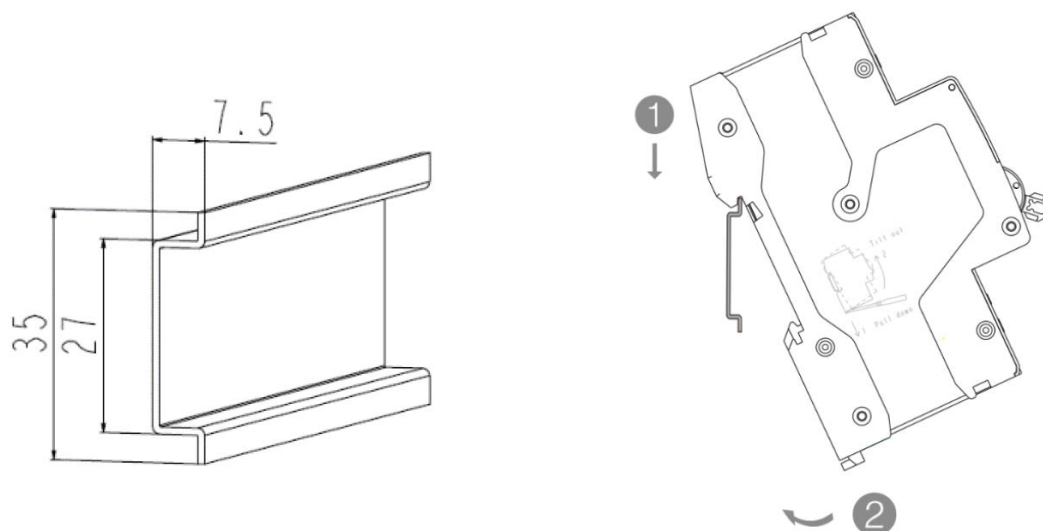

**Figure 3 Circuit breaker closing/opening status indication, mode selection switch "Automatic" and "Manual" positions**
8.1 Before installation and use: check whether the circuit breaker mark is consistent with the working conditions used; Before power on, the circuit breaker shall be operated several times, and its mechanism action shall be flexible, reliable, and free of blocking. See Figure 3 for the circuit breaker closing/opening status indication and the "Automatic"/"Manual" position of the mode selection switch.